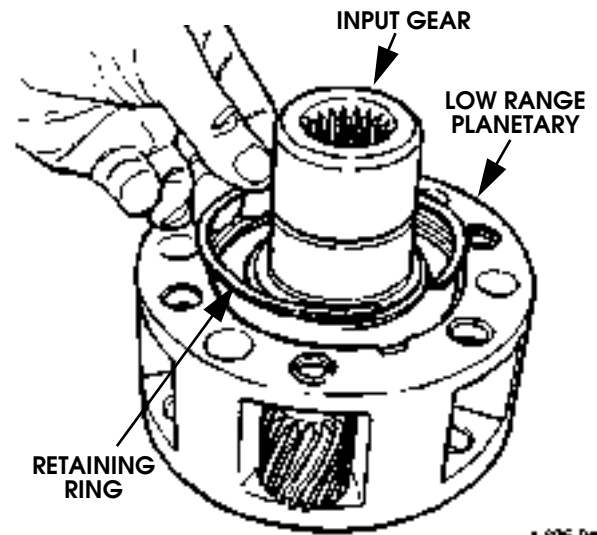

Figure 5-108: Input Gear Retaining Ring Removal
- a. Remove retaining ring that secures input gear in low range planetary (Figure 5-108).